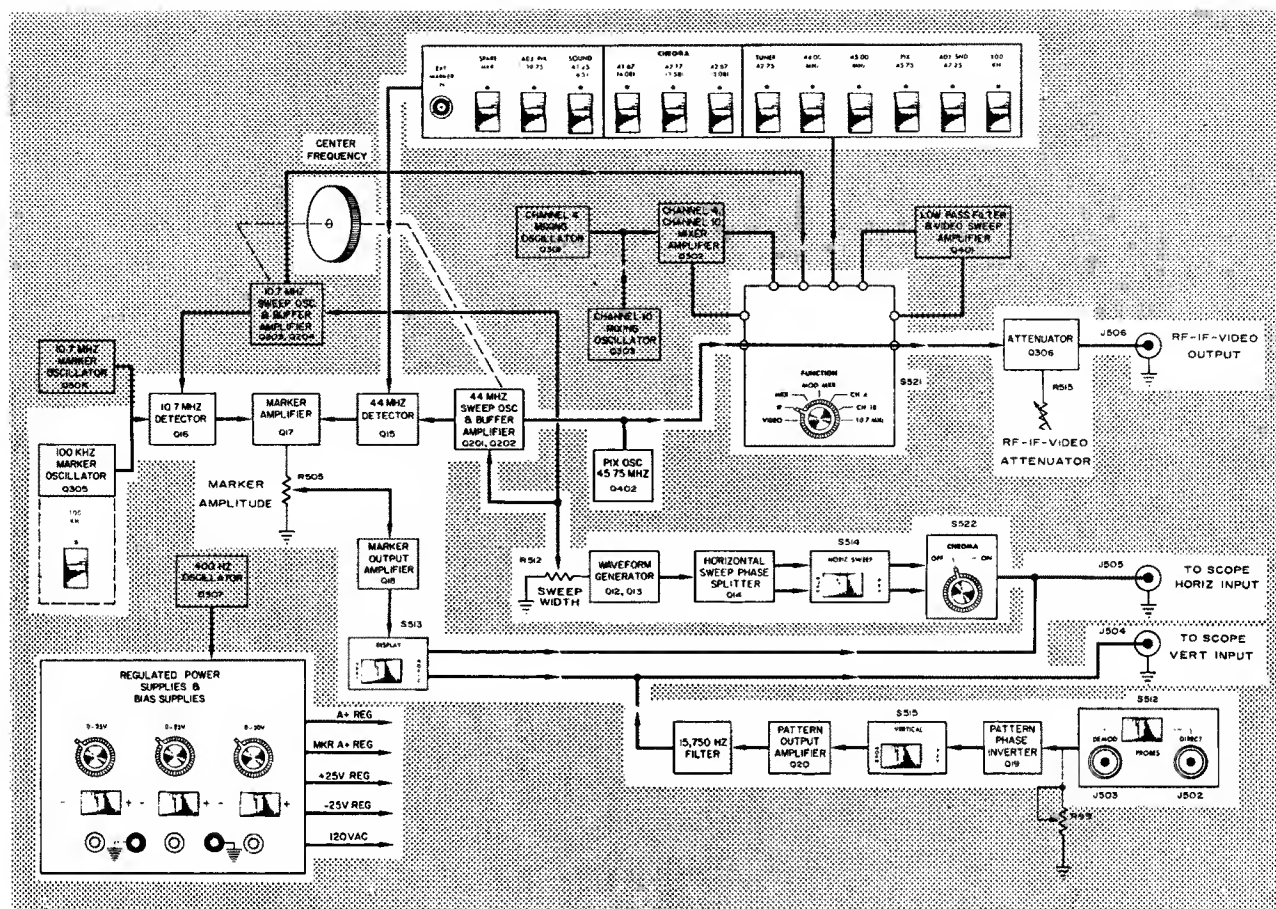

Figure 4.4 Model 415 Block Diagram for I-F Alignment and Overall Chroma Alignment
4.2.2 IF POSITION (See Figures 4.4 and 4.5)